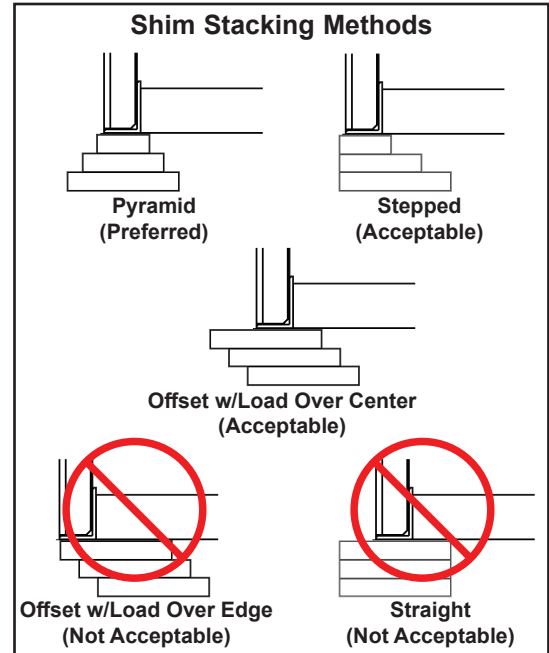

Figure 11
2. Using the results obtained in step 1, create the individual shim stacks on the pit floor at location (**B**). Build each shim stack (**M**) with the top shim having a minimum size of 4" x 4" (101.6 mm x 101.6 mm) and each successive lower shim being larger so the shims can be welded together using a fillet weld. If using offset method, make sure load is over center of shim stack, NOT over the edge. DO NOT use straight method. See Figure 11.